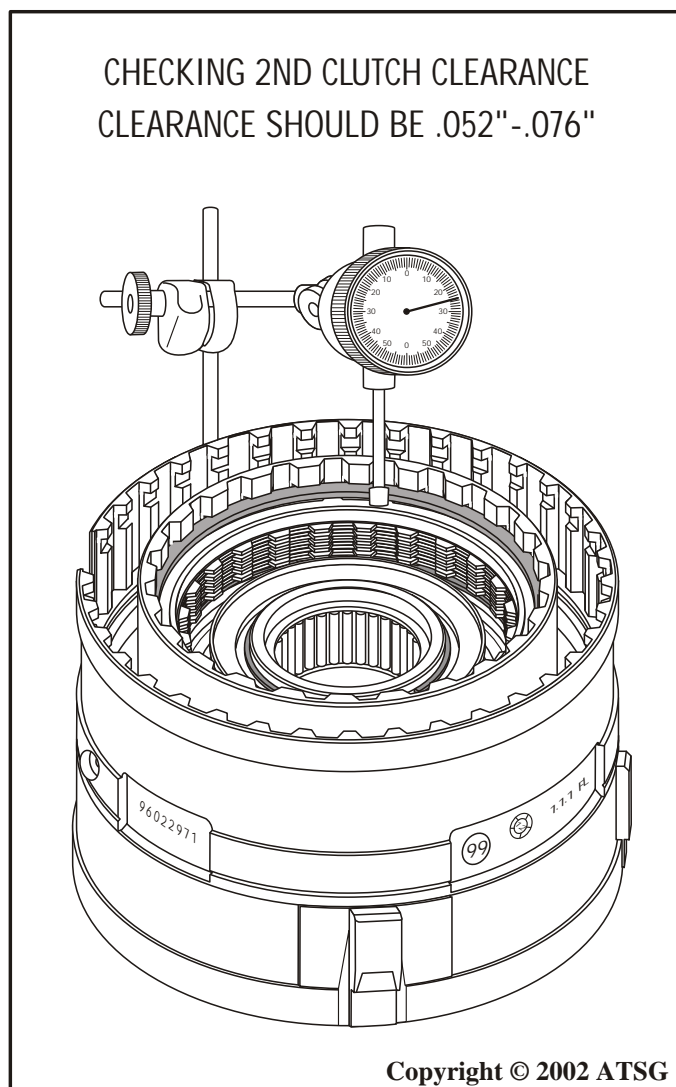

Figure 143
26. Install dial indicator on top of the 2nd clutch backing plate, as shown in Figure 143, and zero the dial indicator.